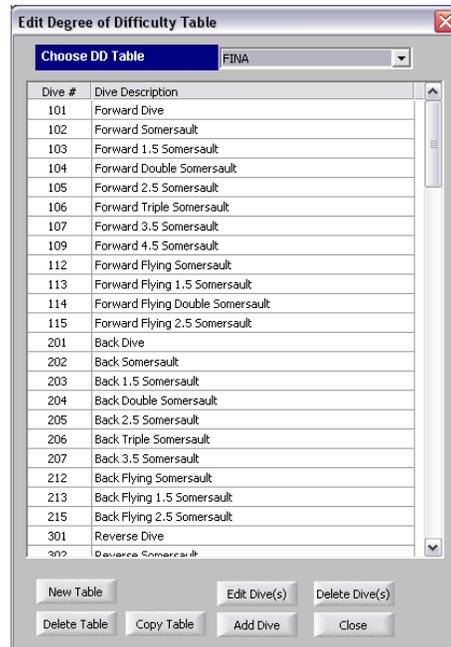

Figure 80: Degree of Difficulty Table
Once the configurations have been verified and the dive order set, the degree of difficulty (DD) table must be selected. To do this, select the **Options** menu, then select **Edit Degree of Difficulty Table**. Select the desired table from the dropdown list at the top of the dialog. Refer to **Figure 80**.